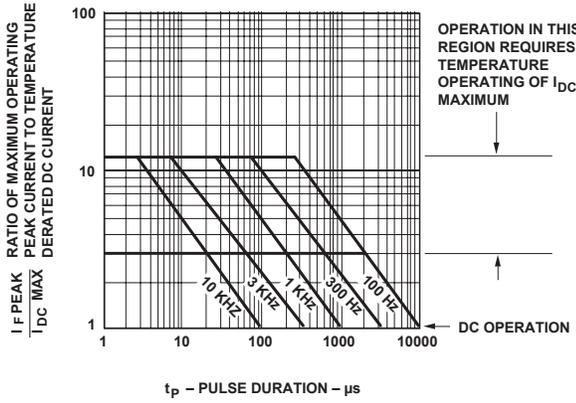

Figure 8. Allowable Peak Current vs. Pulse Duration – Green.
- See Figure 8 to establish pulsed conditions.